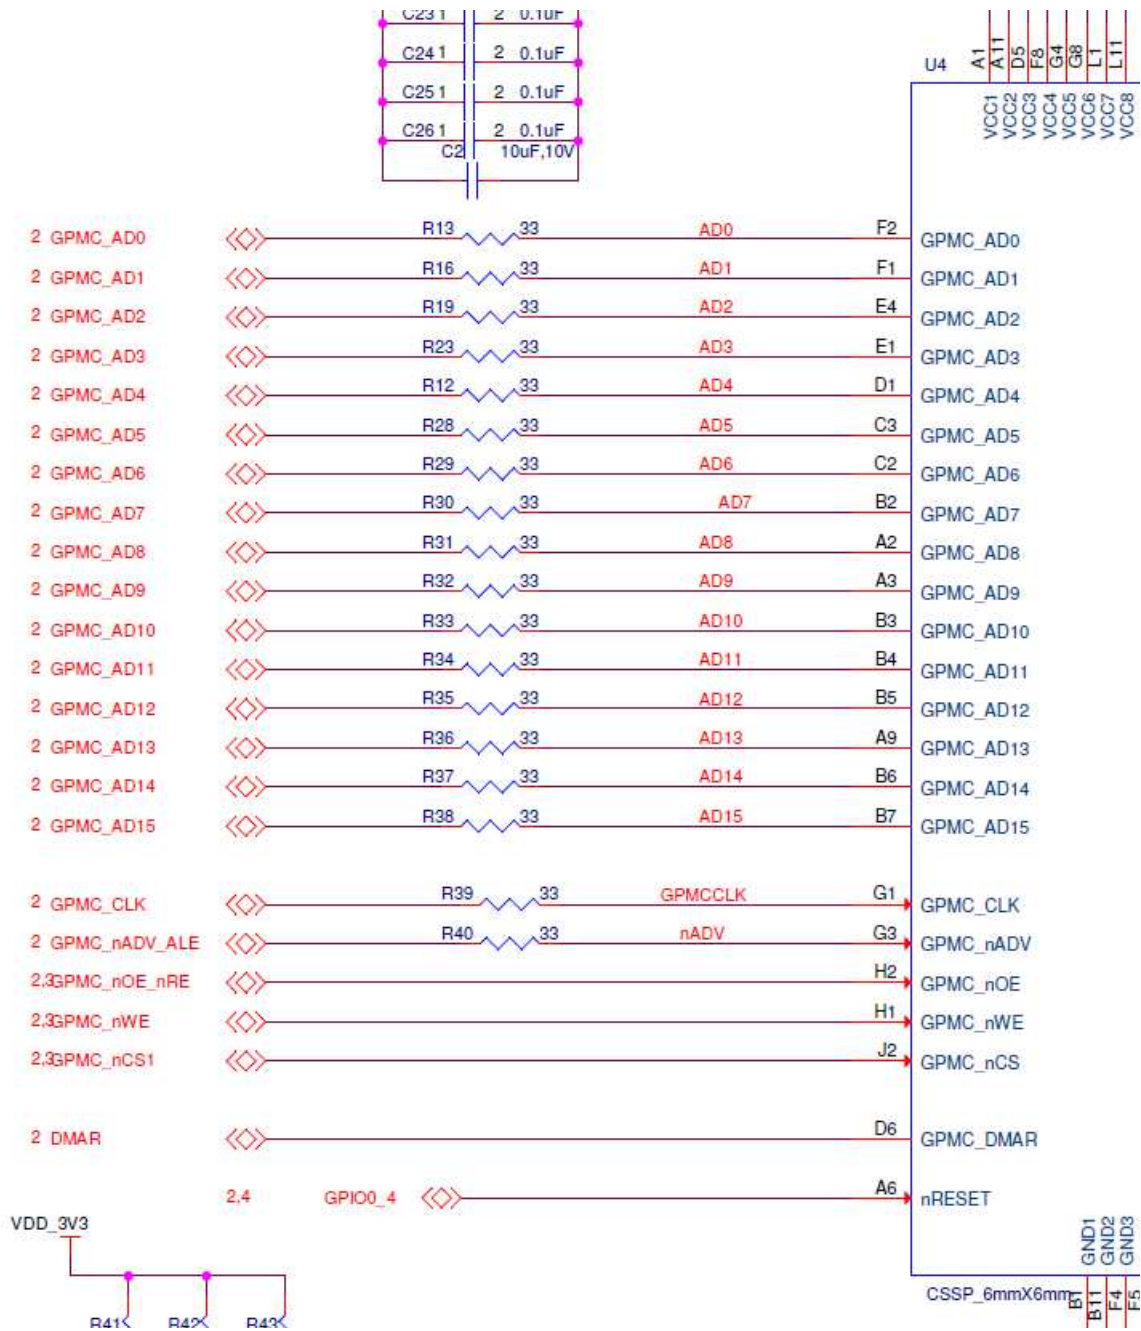

Figure 6. GPMC interface on CSSP device
**Figure 6** shows the GPMC interface on CSSP device.